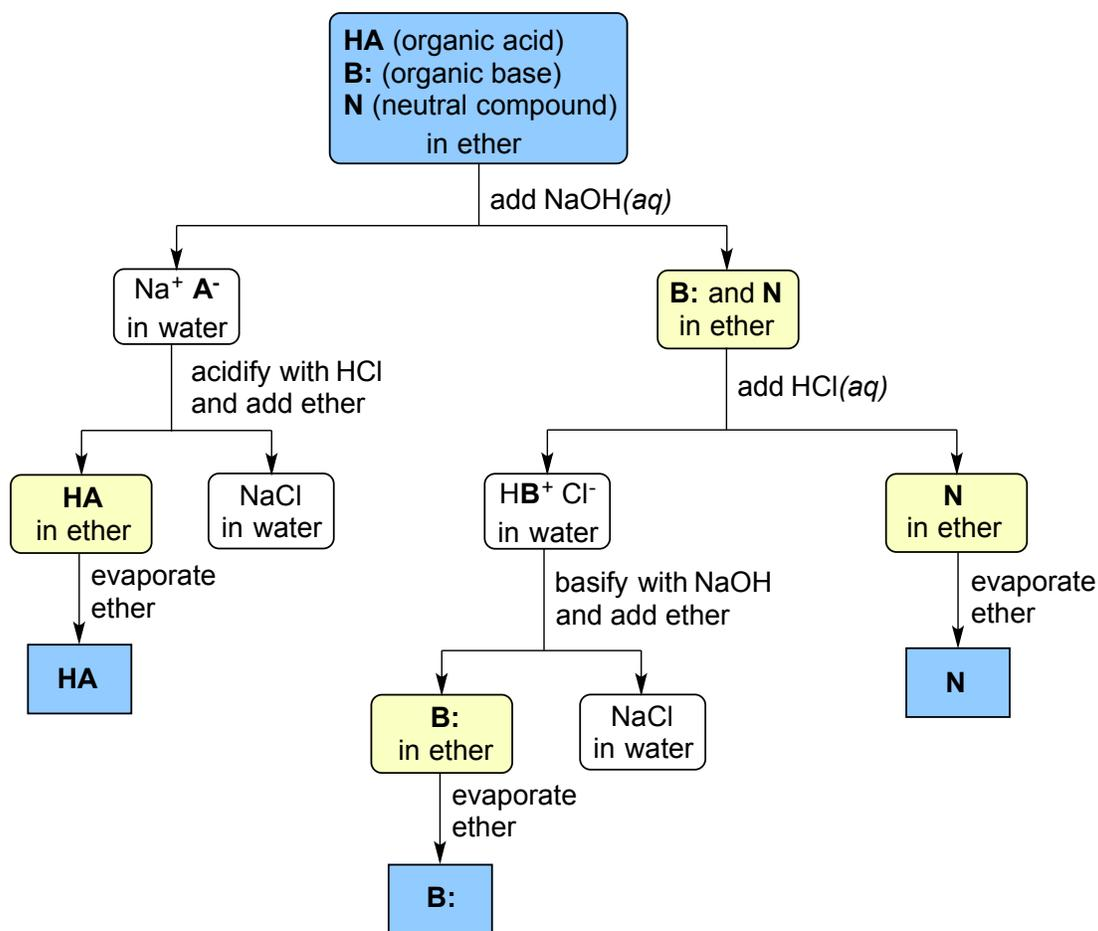

Figure 6. Extraction Flow Chart
Figure 6 details a full acid/base extraction flow chart that describes the separation of a mixture of an organic acid (HA), organic base (B:) and a neutral organic molecule (N).
1. Draw a diagram similar to that in figure 6 detailing the separation of 1,2-dichlorobenzene, phenol ($pK_a = 10$), and pyridine by an extraction protocol.